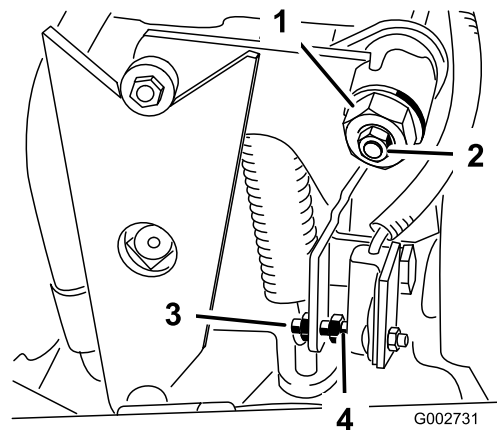

Figure 21
4. Loosen the locknut on the traction adjustment cam (Figure 21).
5. Start the engine and rotate the cam hex (Figure 21) in both directions to determine the mid position of the neutral span.
3. Adjust the screw until the air gap is $.060$ inches $\pm .030$ (Figure 21).